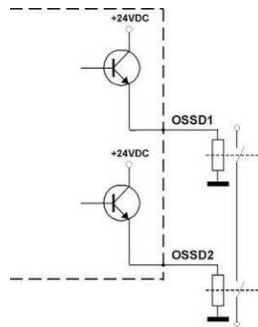

Figure 25
- The OSSD1 and OSSD2 safety contacts cannot be connected in series or in parallel, but must be used separately (Figure 25), conforming to the plant's safety requirements.